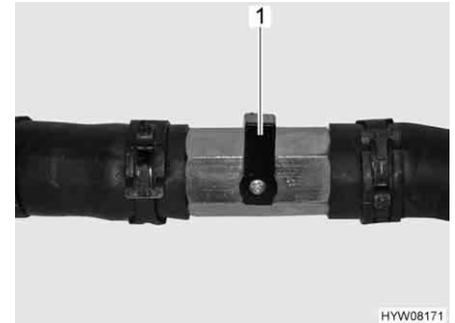

Fig. 205 Stopcock is closed
- Set the lever (Fig. 205,1) of the stopcock at right angles to the pipe.